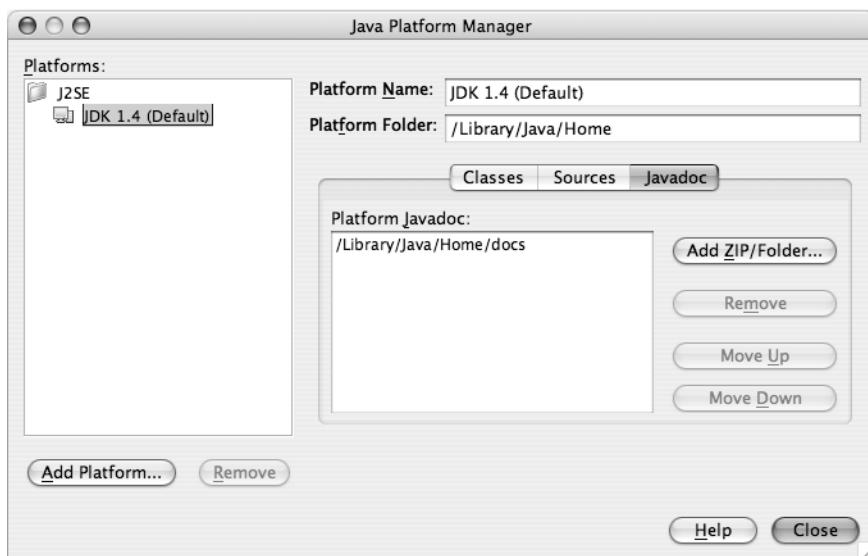

FIGURE 4-8: JavaDoc Prefs window.
2. Click the JavaDoc Tab as shown in Figure 4-8.